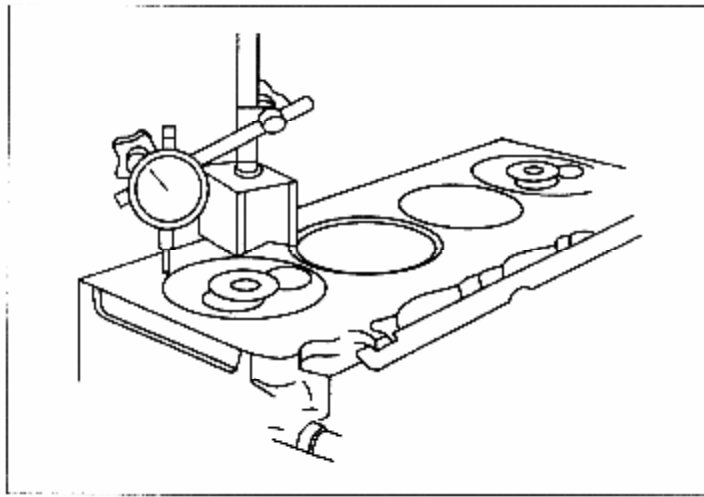

Figure 3-8 Measure piston top projection
- (1)Clean to remove carbon or gasket dirt on piston top or cylinder block top;
- (2)Use dial indicator to measure projection at measuring points ①, ③ on piston top and ② ,④ on cylinder block (see figure 3-8, 3-9). Must measure every cylinder.
- (3)Note the highest value measured, it will decide the thickness of gasket. The larger the value, the thicker the gasket will be.